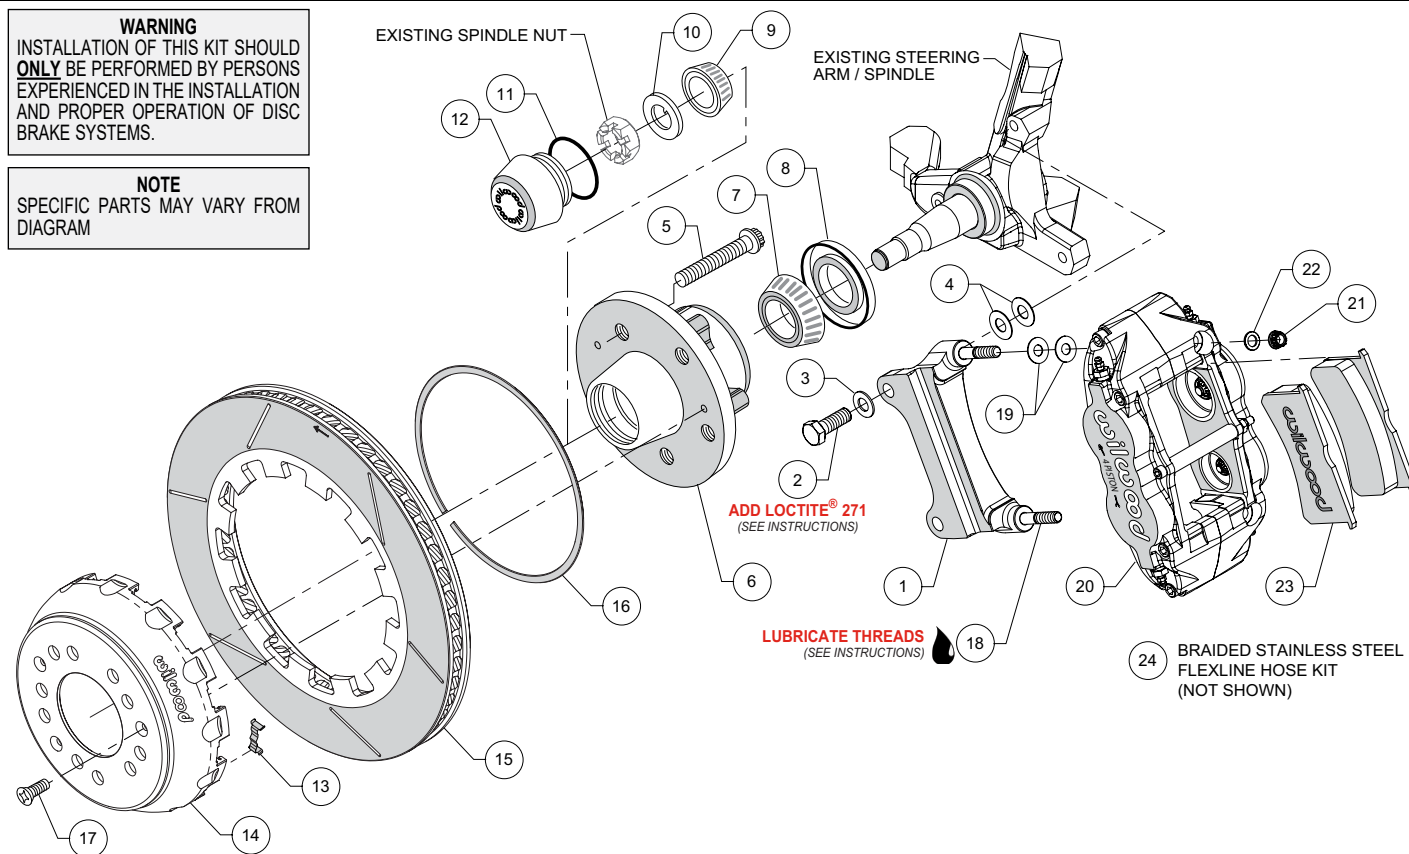

Figure 2. Typical Installation Configuration
NOTE: Numbers in parenthesis refer to the parts list and Figure 2 on the preceding pages.
- The caliper mount bracket (1) should initially be installed with clean, dry threads on the mounting bolts. Orient the bracket as shown in Figure 2 and Photo 1, and install using bolts (2) and washers (3). Initially place two .033" thick shims (4) on each bolt between the bracket and upright, Figure 2. Temporarily tighten the mounting bolts. **NOTE:** The bracket must fit squarely against the mounting points on the spindle. Inspect for interference from casting irregularities, machining ridges, burrs, etc. Later, after the caliper alignment has been checked, the mount bolts will be secured using red Loctite® 271.
- Insert the dynamic mount wear clips (13) into the slots in the hat (14), Photo 6. Orient the rotor (15) as shown in Figure 2 and Photo 7, with the flush side of mount lugs facing the hat. Secure the rotor to the hat using the snap ring (16) by simultaneously pushing down on the rotor and installing the ring into the groove in the hat, as shown in Photo 8. Carefully inspect snap ring to ensure complete engagement in the groove.
- Slide the hat/rotor assembly onto the hub assembly. **NOTE:** *The hat must fit flush against the hub flange or excessive rotor run out may result.* Install three flat head screws (17) through the small holes in the hat, Photo 9, and torque to 85 in-lb.
- NOTE:** *This kit contains distinct right and left hand calipers that must be mounted in a specific direction, as described below.* Lubricate the caliper mounting studs (18) with lightweight oil. Initially place two .035" thick shims (19) on each stud between the caliper and the bracket, as shown in Figure 2 and Photo 10. Mount the caliper (20) onto the bracket (1) using lock nuts (21) and washers (22), Figure 2. Ensure that the caliper is mounted so the largest pistons are at the rotor exit end of the caliper, in relation to the forward rotation of the rotor. Temporarily tighten the lock nuts and view the rotor through the top opening of the caliper. The rotor should be centered in the caliper, Photo 11. If not, adjust by adding or subtracting shims (4) between the bracket and the spindle. Always use the same amount of shims on each of the two mounting bolts. Once the caliper alignment is correct, remove the bracket mounting bolts (2) one at a time, apply red Loctite® 271 to the threads, and torque to 60 ft-lb.